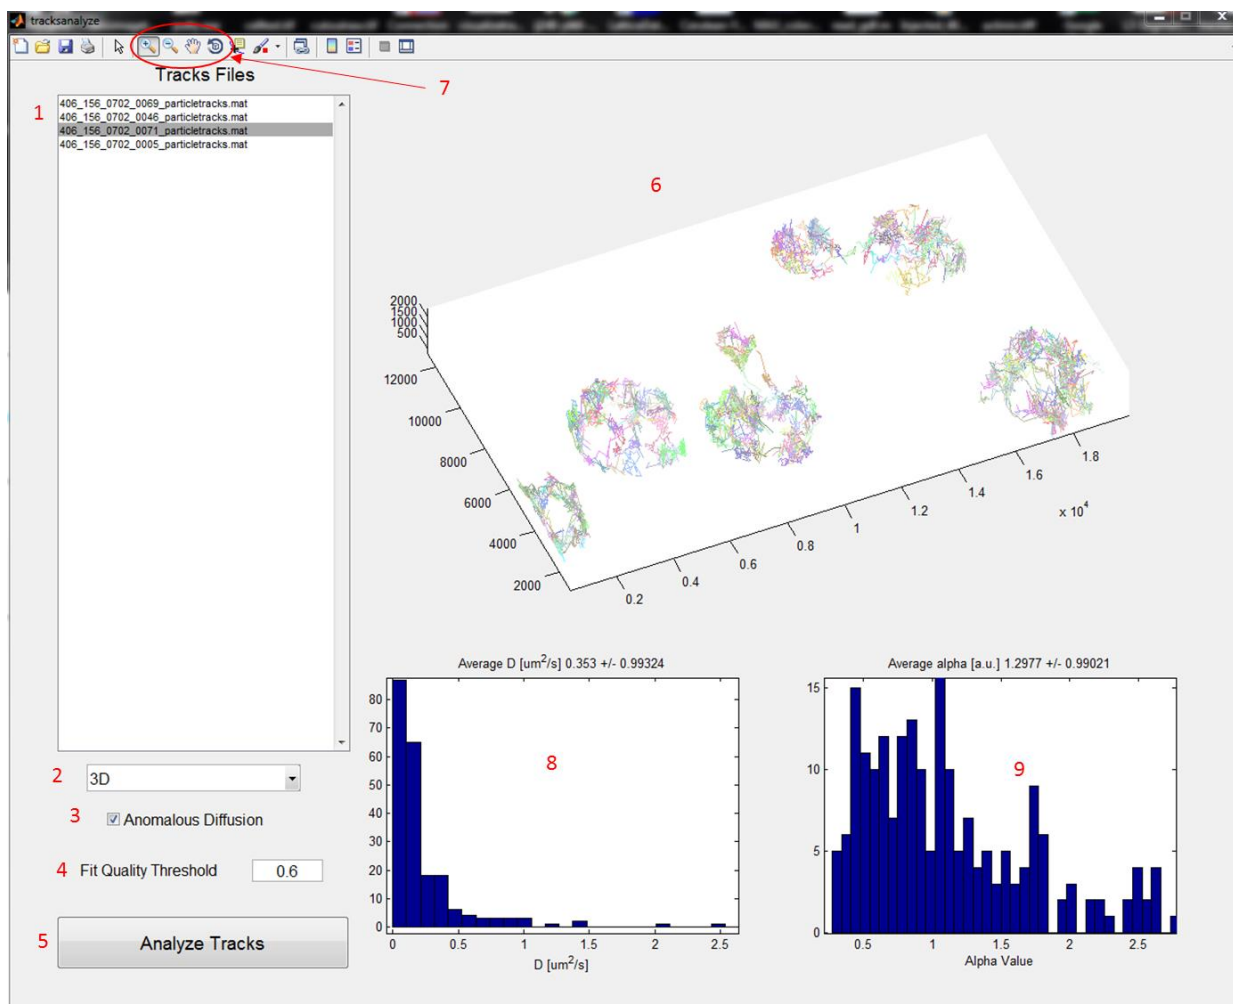

Figure 15. MFM Analyze Tracks Window.
13. Once the algorithm has completed all the files listed under box 2, you can proceed to the Analyze Tracks section to model diffusion constants and view the results. Pressing the “Analyze Tracks” button will produce the window shown in Figure 15. This window is explained in more detail in the next section.
This window will allow you to analyze the particle trajectories computed by the MOSAIC plugin. This is explained below, according to the red numbers shown in Figure 15.